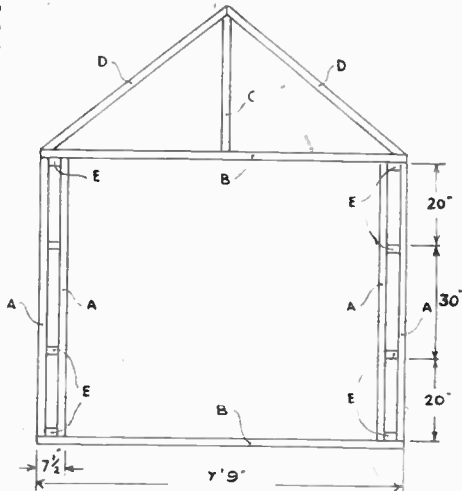

Fig. 1—Framework of front section
Fig. 1 shows the positions of the pieces which form the front section. First cut the four (A) pieces, these are 5ft. 10ins. long, and then cut the two